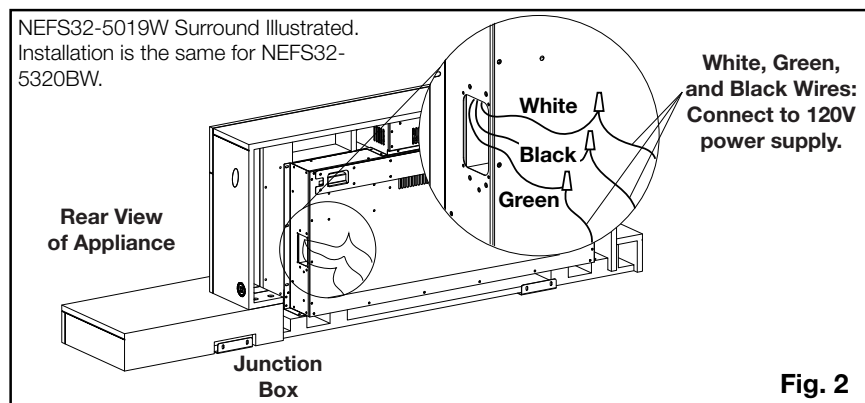

Fig. 2
- Using the wall mounting installation template (**Fig. 2**), mark out the locations of the rear wall bracket and bottom brackets on the wall.
- Remove the wire connectors from the power cord (**Fig. 2**). The power cord may be discarded.